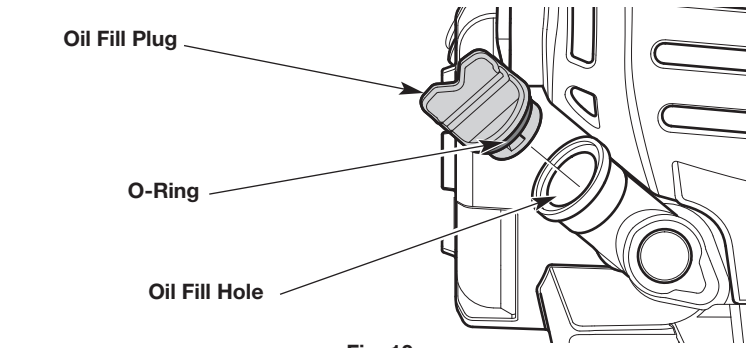

Fig. 10
2. Unscrew the oil fill plug (Fig. 10).
3. Pour the entire container of oil into the oil fill hole (Fig. 10). **DO NOT** overfill. Refer to *Checking the Oil Level*.
NOTE: Make sure the O-ring is in place on the oil fill plug (Fig. 10).